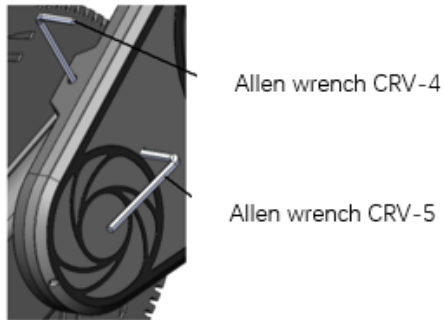

Fig 8
This product supports virtual gear shifting by simulating a bicycle transmission. It is equipped with a remote control as shown in Figure 8. It is recommended that Place the bicycle chain on the 21-toothed sprocket of the flywheel. The default gear on the remote control is the 8th gear. Briefly press the "+" key on the remote control to increase the virtual gear ratio of the bicycle by 1 gear, your legs will feel heavier When stepping on it. Each press will cause a "beep" sound. When shifting up to the
1) Insert the Allen wrench CRV-5 (big) as shown in Figure 8 into the adjustment hole on the side. Gently
2) Insert the Allen wrench CRV-4 (small) as shown in Figure 8 into the adjustment hole at the top. Gently turn the wrench to fully fit the Allen hole of the internal screw. Turn the wrench clockwise to the desired feel.